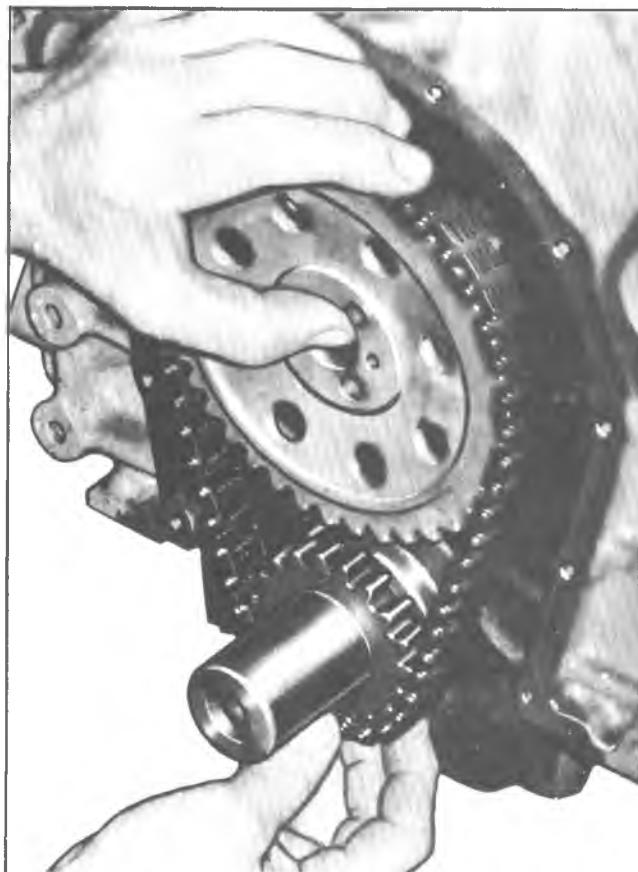

Fig. 27V—Installing Timing Chain
6. Install timing chain on camshaft sprocket. Hold the sprocket vertically with the chain hanging down and align marks on camshaft and crankshaft sprockets (fig. 27V).